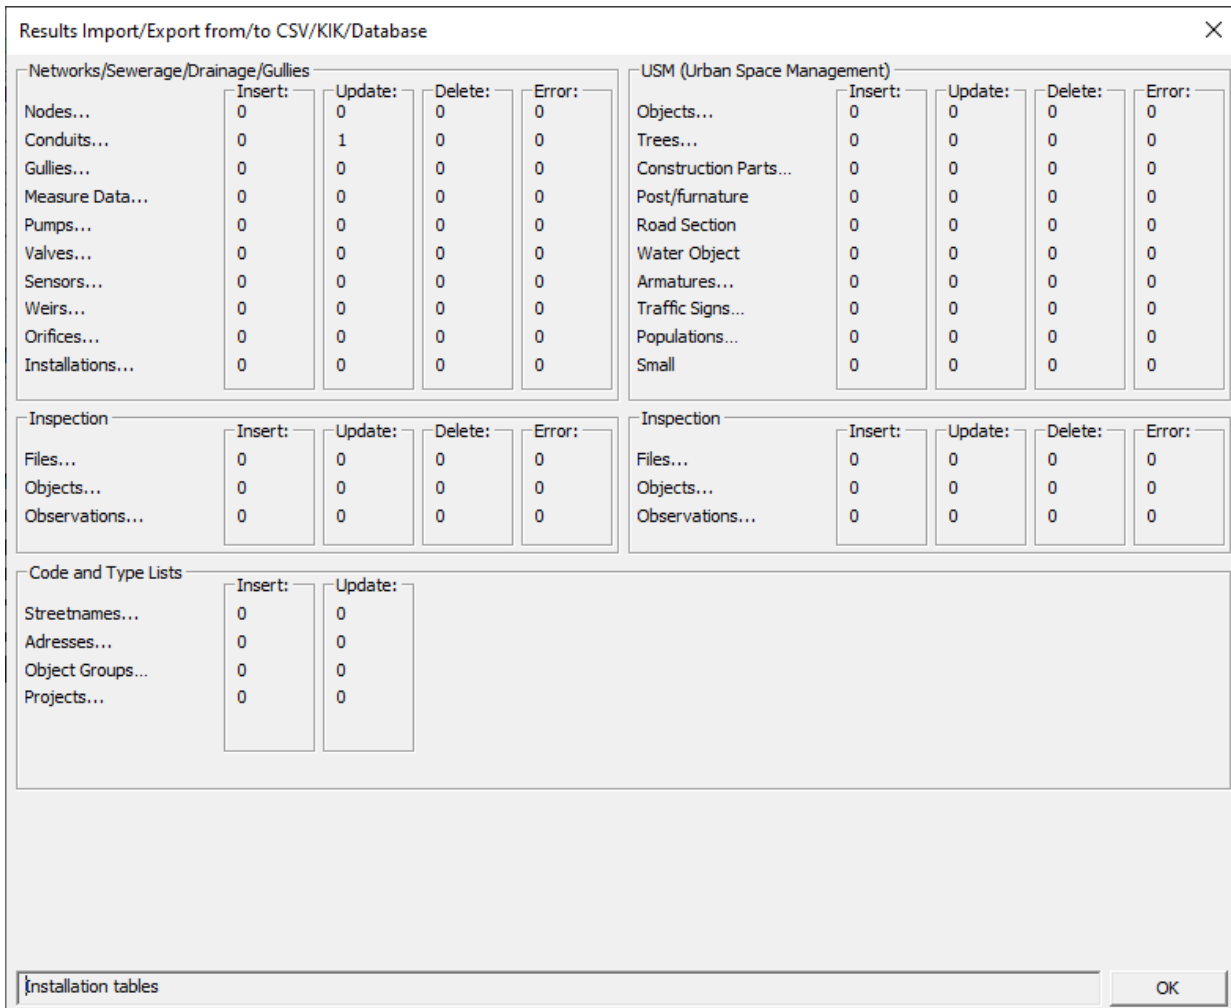

Figure 5.4.5
5. BRUTIS transfers the data from mutation-file to temporary tables in the database. In the dialog depicted in figure 5.4.5., the user monitors the data transfer.